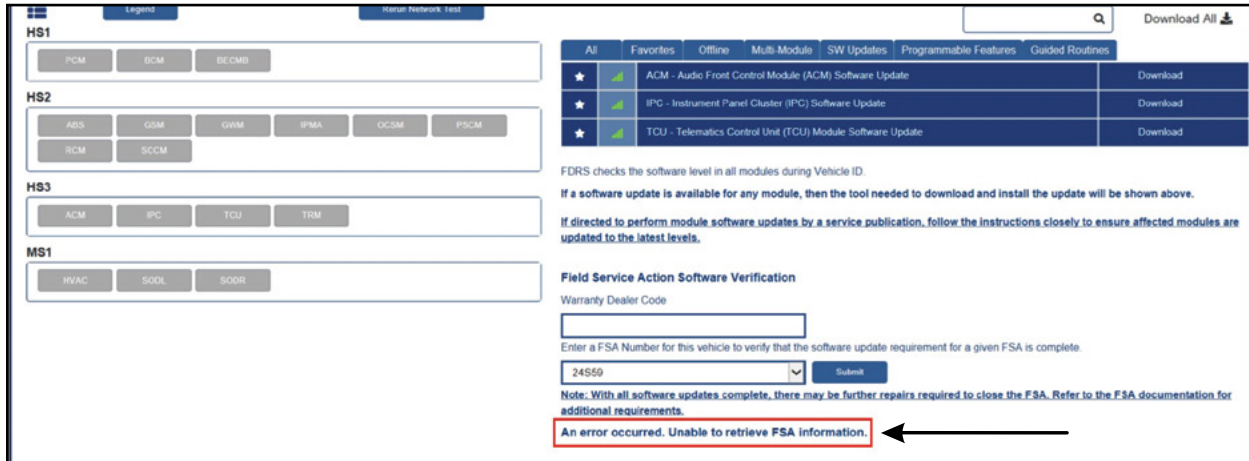

FIGURE 6
20. At this time, an error has occurred and the FSA information could not be retrieved. From PTS, contact the Ford Technical Support Team by submitting a **Technical Support Request (TSR)** by selecting the **FSA Assistance Group**. See Figures 6 and 7.